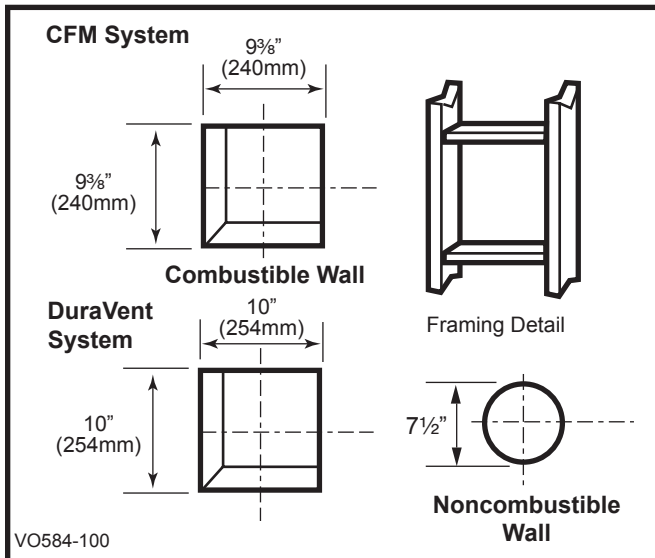

Fig. 22 Locate vent opening.
1. Locate the vent opening on the wall. Refer to Page 7, Figure 5, to determine the opening centerline. It may be necessary to first position the stove and measure to find the hole location. Depending on whether the wall is made of combustible materials, cut the opening to the size shown in Figure 22. Combustible wall openings must be framed as shown in Figure 22.